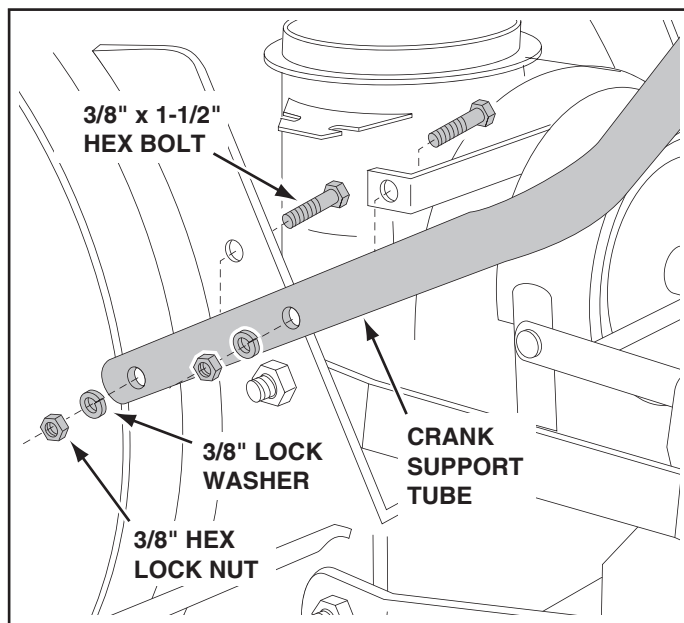

FIGURE 16 LEFT SIDE VIEW
- Assemble the crank support tube (flat side) to the two brackets on the left side of the thrower housing using two 3/8" x 1-1/2" hex bolts, 3/8" lock washers and 3/8" hex lock nuts. See figure 16.